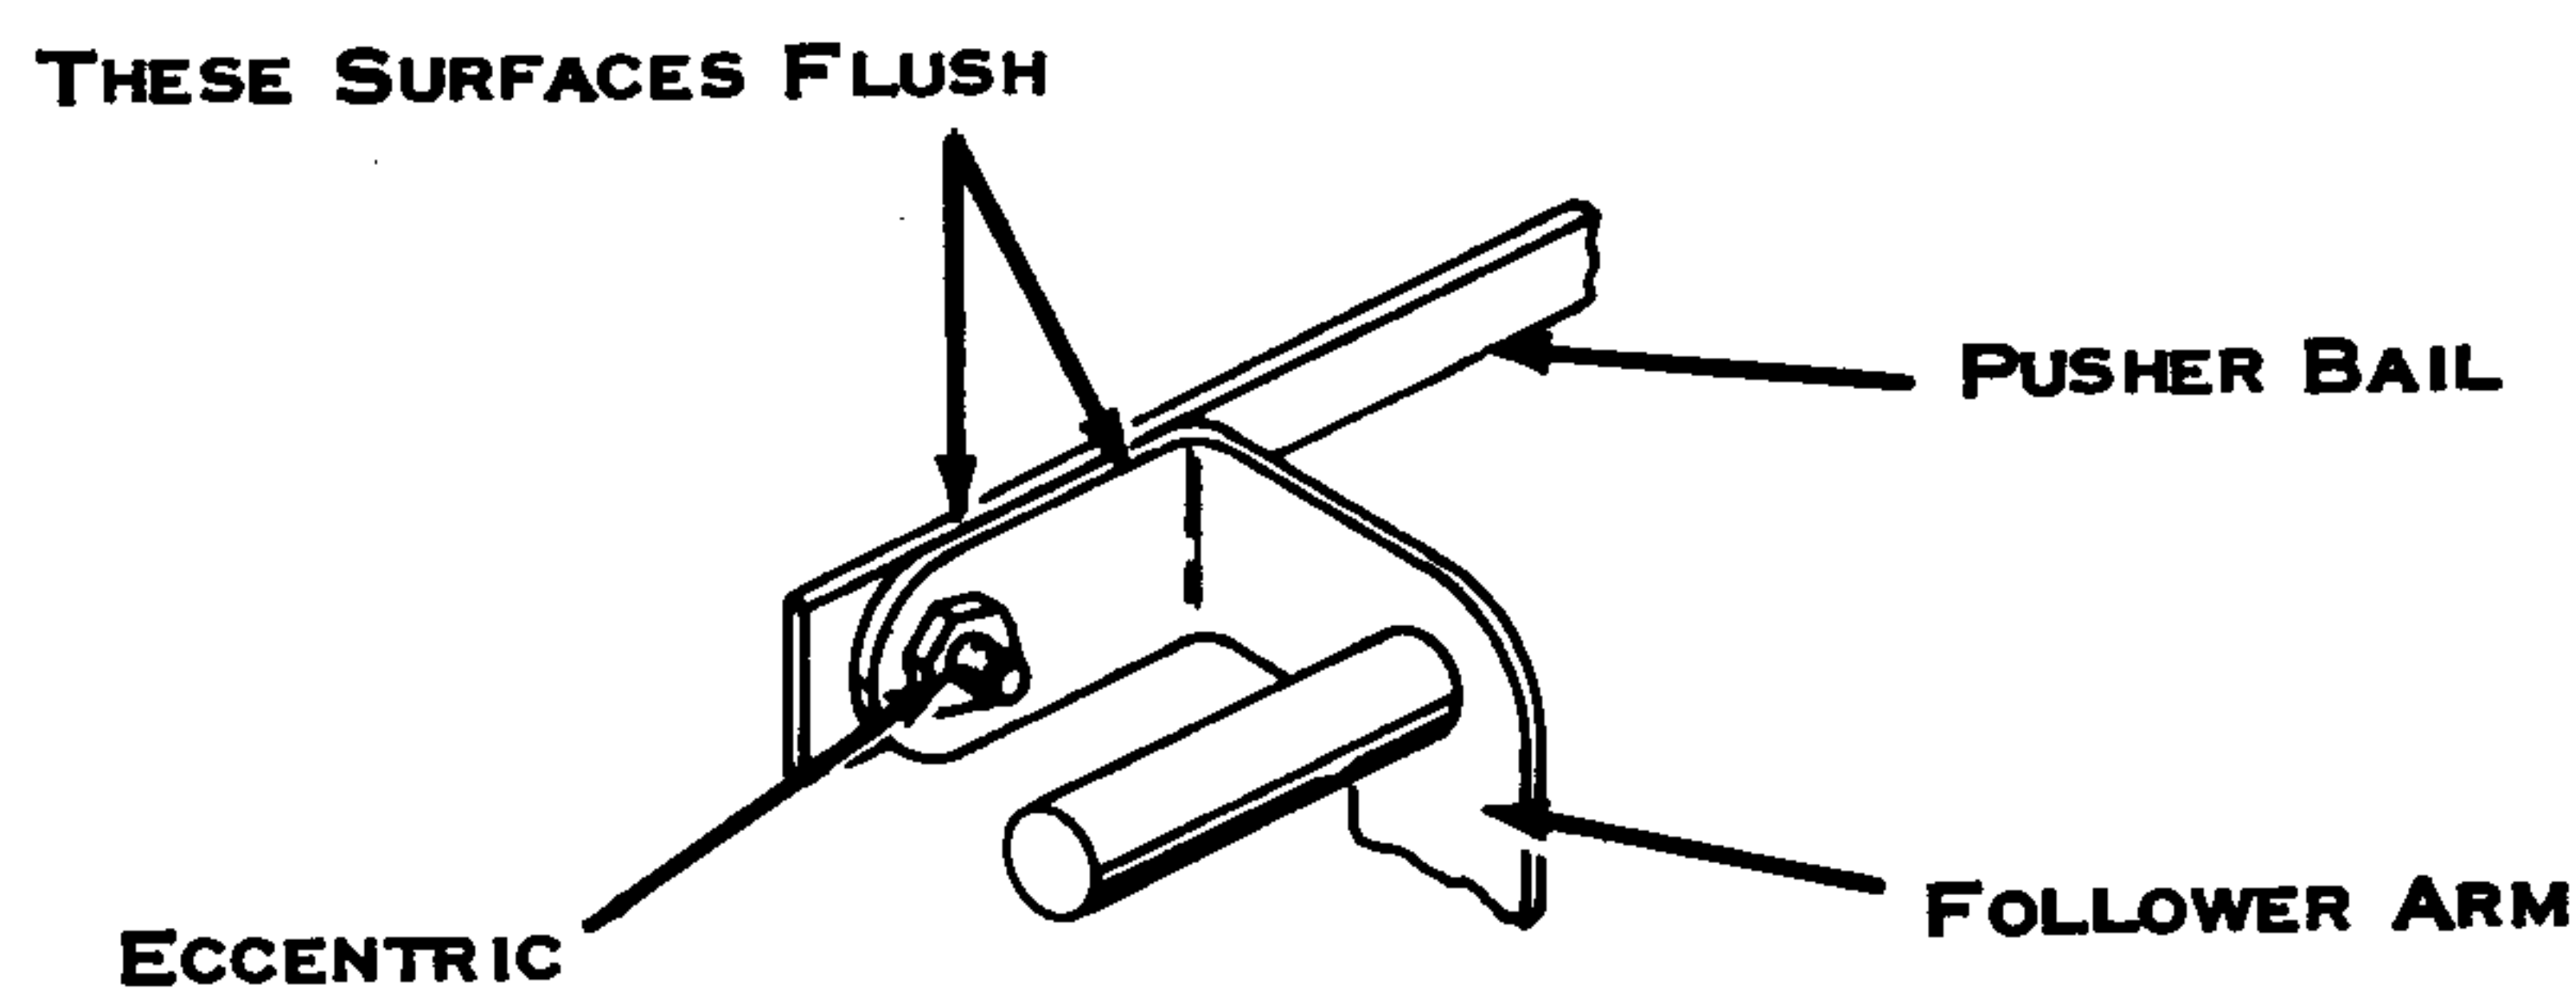

Figure 17. Pusher Bail
1. Pusher Bail Eccentrics (Fig. 17) - Adjust so that the top edge of the follower arms are flush with the pusher bail.